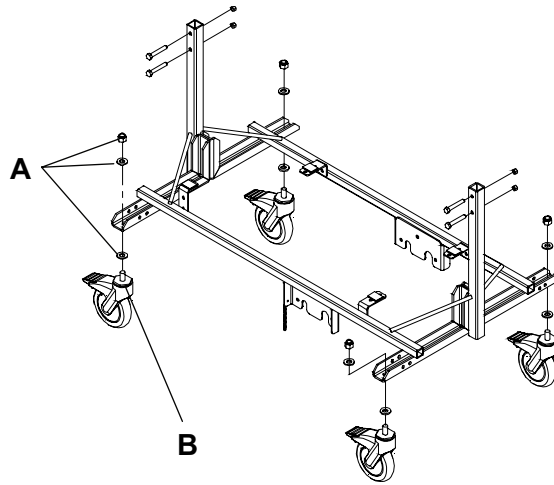

Figure 5 – Caster replacement
6. Using a Stryker special key (19-0803Z) and a 3/4" socket, remove the locknut and washer (A) that secure the caster (B) to the base (Figure 5). Discard the caster. Save the locknut and washer.